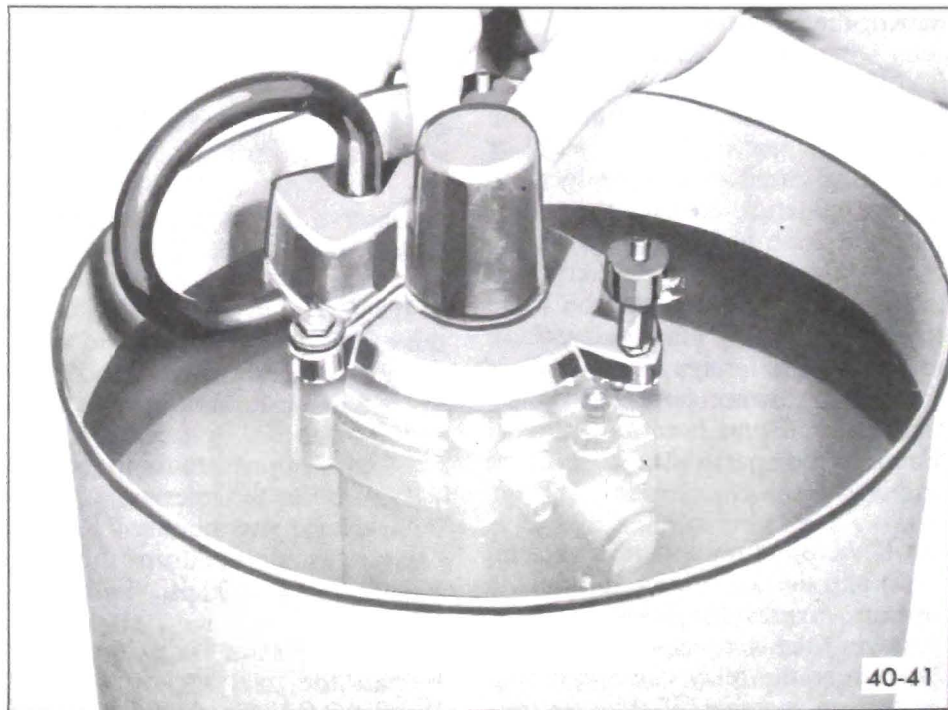

Figure 40-44 - Checking Compressor, Reservoir Tank and Regulator for Leaks
3. Route an 8" piece of rubber hose between vacuum and vent ports. See Figure 40-44.